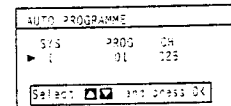

Fig. 4.
- 2 Select Auto Programme with $\Delta+$ or $\nabla-$ and press OK. The AUTO PROGRAMME menu appears. (See Fig. 4.)